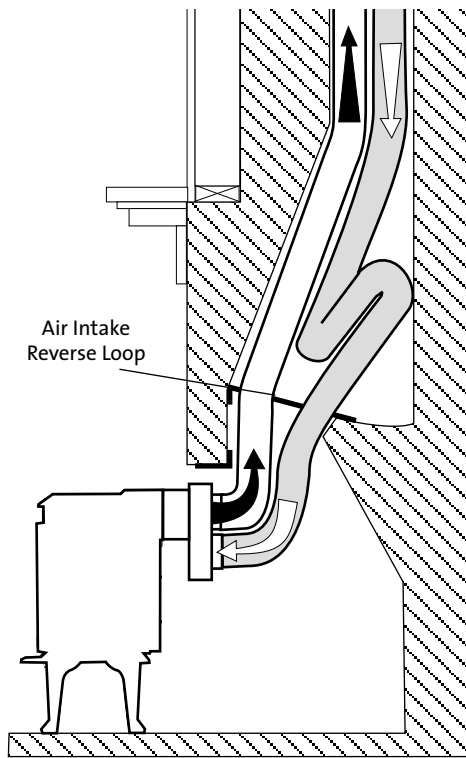

Figure 15a. A “reverse loop” in the air intake run can help maintain draft strength.
7. **REVERSED INTAKE LOOP:** When enough vent length and flue area are available, including a return loop in the air intake run can help prevent draft reversals that cause cold start problems. See Fig. 15a.